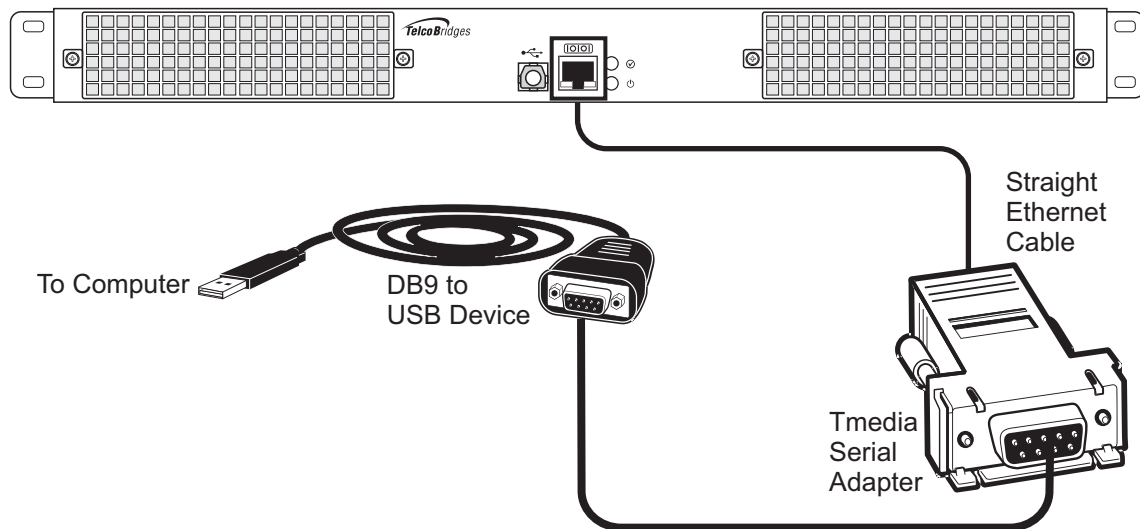

Figure 3.4
2. If your computer’s serial port features a DB9 connector, use the Tmedia serial adapter supplied with your 800 series gateway. If your computer’s serial port features a USB connector, you will need to provide a USB to DB9 adapter. Refer to figure 3.4 on page 44.